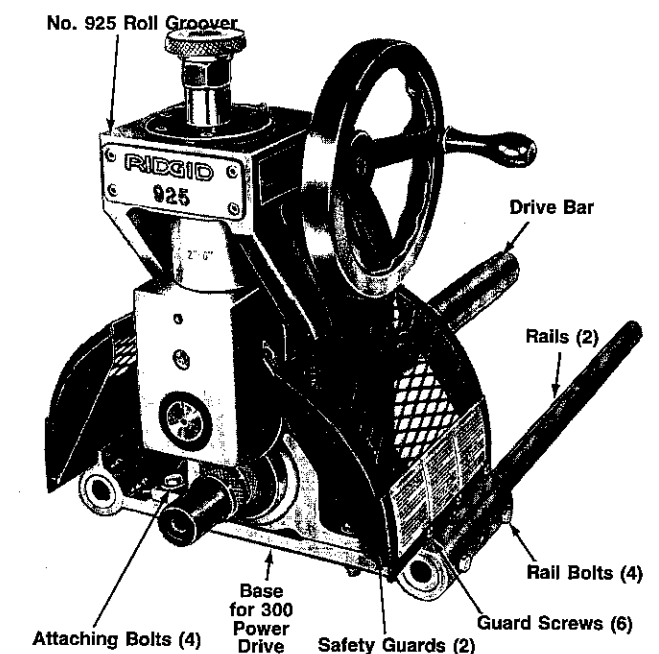

Figure 12. No. 925-3 Subassembly
4. Attach Safety Guards (2) to Base with three screws each. Assure Safety Guards are positioned toward Drive Roll.
6. Push Handwheel onto handwheel shaft on right side of Groover, as viewed from drive roll, and reinstall roll pin. See Fig. 12.